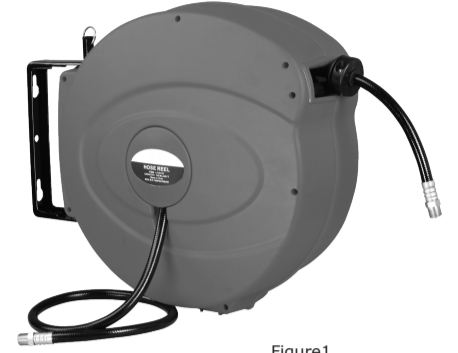

Figure1
- 2.Latching Mode Switch, when reel is in free run state, pull out the hose and allow it to retract after hearing the first second or third "click". After that, revolve the switch 90 degrees and put the switch down(Ref. Figure.1).